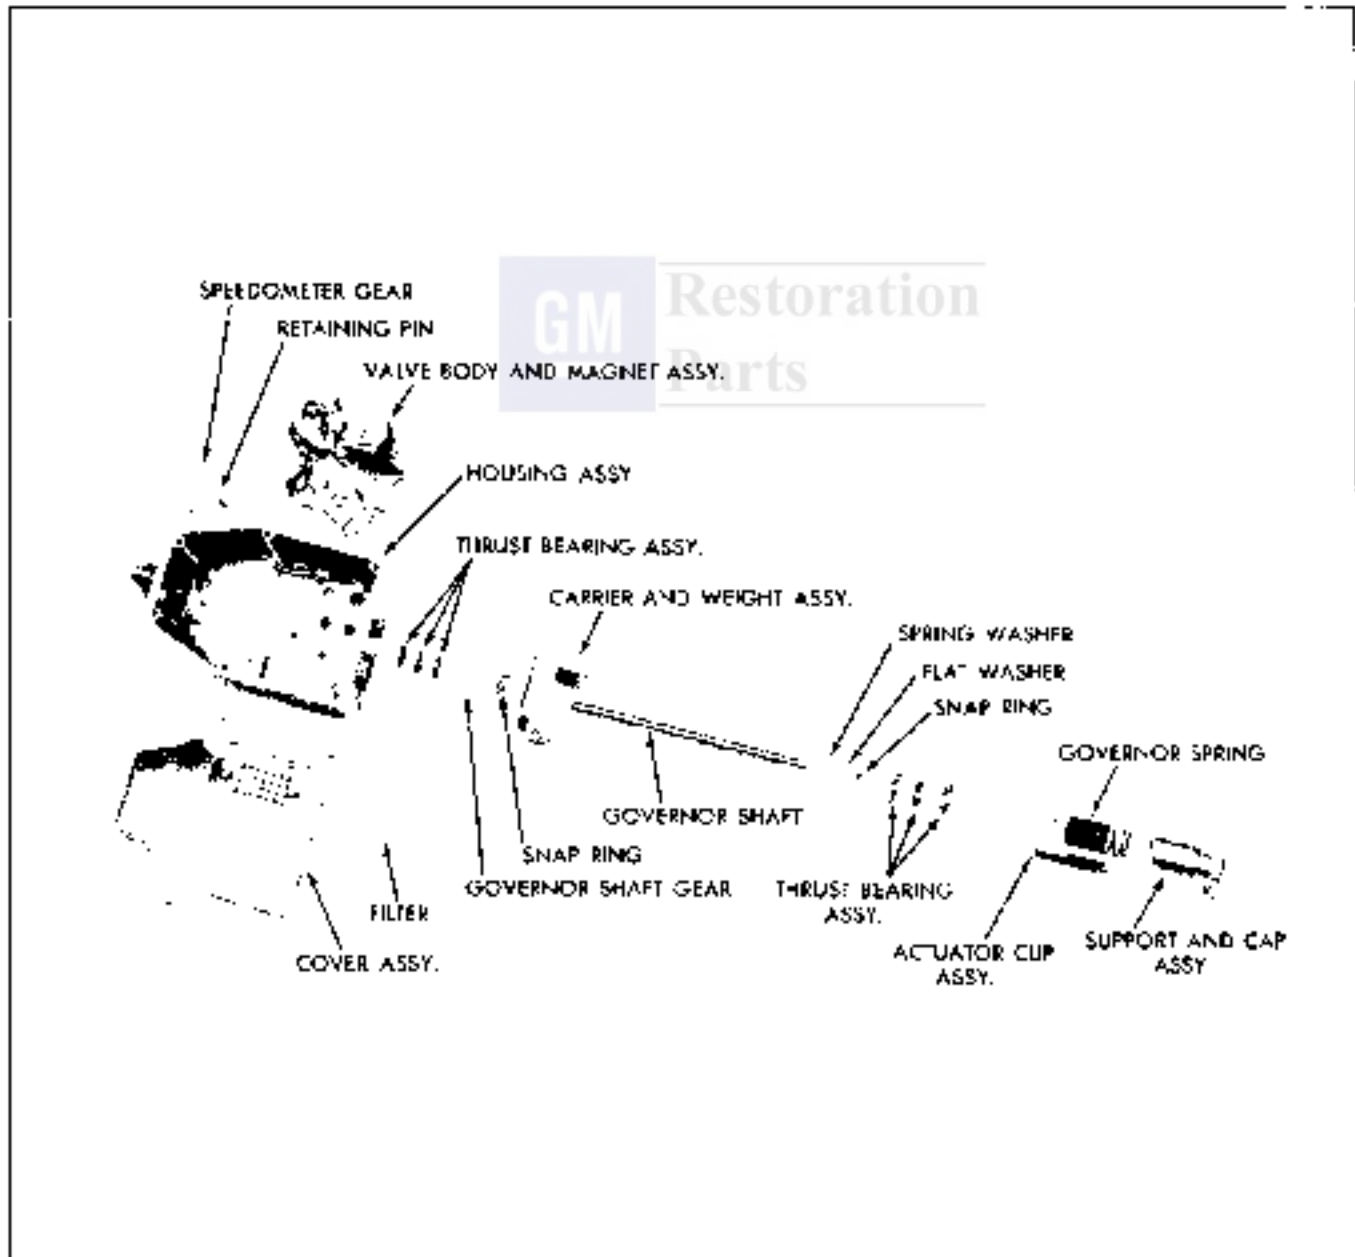

Fig. 15-4 Exploded View of Regulator
5. Slide the governor assembly away from the speedometer drive adapter and until the shaft is free of bearing. This will allow the governor assembly to be removed from the regulator. For further disassembly of governor see Fig. 15-4.